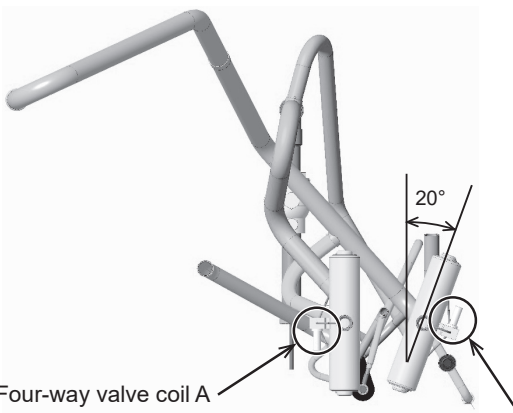

Figure 8
(8) Follow the steps (5) and (6).
(9) Mount a new four-way valve (21S4b). Figure 8 shows the reference installation position of the four-way valve. When viewed from the top of the unit, the four-way valve (21S4b) is tilted by 20° with respect to the vertical plane. The coils on four-way valve 21S4b and 21S4a face different directions.